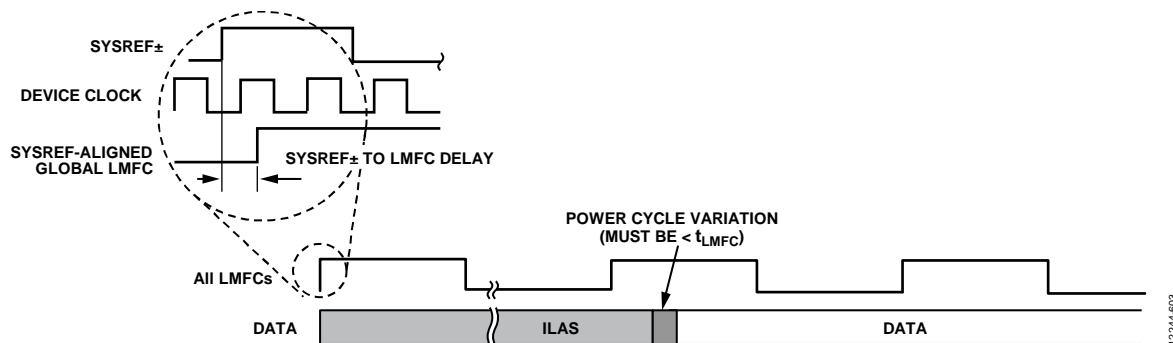

Figure 103. SYSREF± and LMFC
The JESD204B protocol organizes data samples into octets, frames, and multiframe as described in the Transport Layer Sample Test Mode section. The LMFC is synchronous with the starts of these multiframe. In Subclass 1 operation, the SYSREF± signal synchronizes the LMFCs for an individual link or across multiple links (within the AD9234, SYSREF± also synchronizes the internal sample dividers), as shown in Figure 103.
- The total latency variation across all lanes, links, and devices must be ≤ 1 LMFC period (see Figure 103). This includes both variable delays and the variation in fixed delays from lane to lane, link to link and device to device in the system.